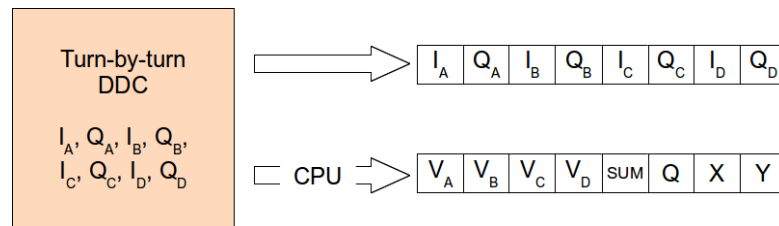

Figure 38: Raw and synthetic data from the turn-by-turn (DDC) buffer.
- ddc_synthetic: provides processed values (V_A , V_B , V_C , V_D , SUM, Q, X, Y) calculated from the I and Q amplitudes, see Figure 38.
- tdp_synthetic: provides amplitudes (V_A , V_B , V_C , V_D) and processed values (SUM, Q, X, Y) calculated from the amplitudes, see Figure 38.
- mbtbt_synthetic: provides amplitudes (V_A , V_B , V_C , V_D) and processed values (SUM, Q, X, Y) calculated from the amplitudes, see Figure 38.